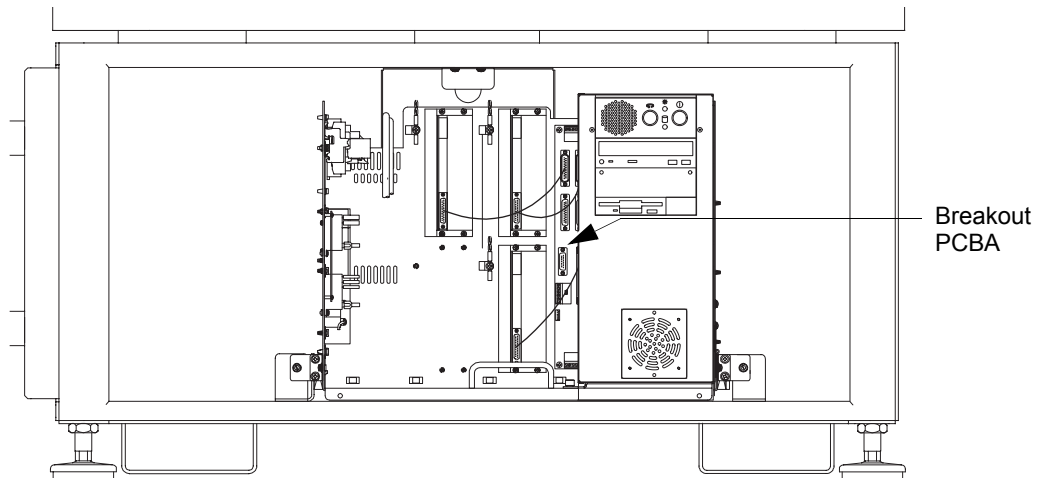

Figure 9-27 Location of the Breakout PCBA
4. The linear Breakout PCBA is located on the back wall of the drawer; see Figure 9-27.